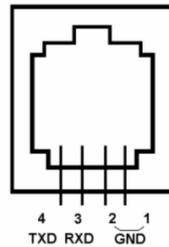

Figure 8. Serial port pin-out on an 8407+ hand controller
- Serial port: connect the HC to a computer via a RS232 to 4P4C RJ9 cable. The pin-out of the serial port is shown in Figure 8.